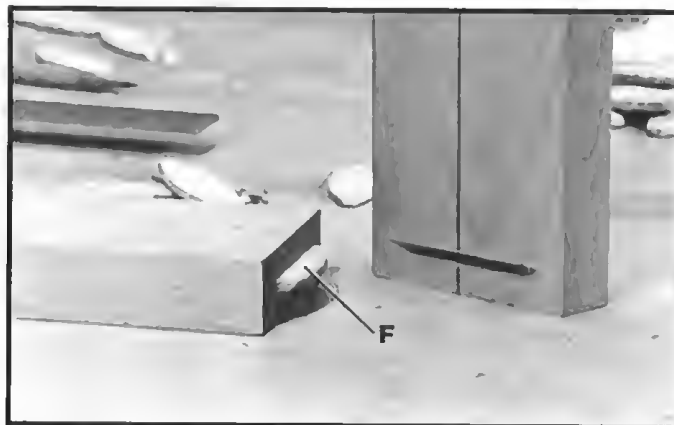

Fig. 46
4. Apply glue to the inside of biscuit slots, insert biscuit (F), as shown in Fig. 46, and press the two pieces of wood together.